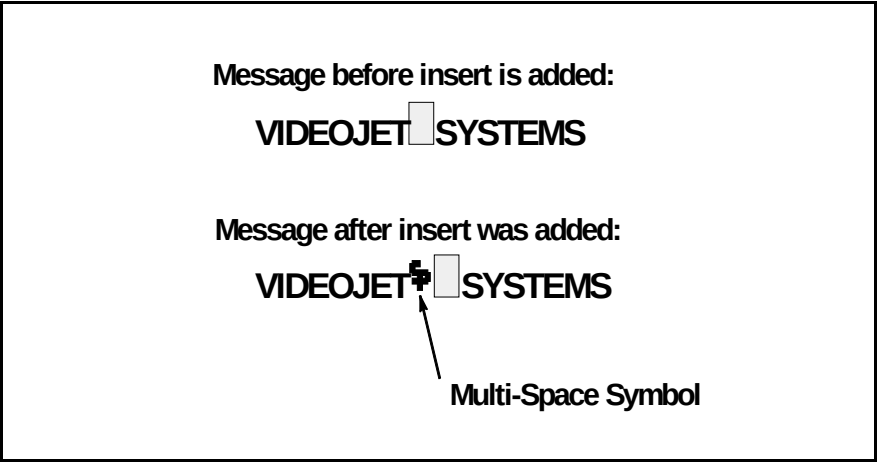

Figure 6-43. Message with a Multi-Space Insert
6. Press **F3** to select <INSERT M-SPACE>. The insert will appear in the message as a “blank space symbol.” Refer to Figure 6-43.
The blank space symbol that is seen in the message appears the same regardless of how many characters are included in the insert. Only one symbol will appear in the message every time you insert a multi-space character. Refer to Figure 6-43.